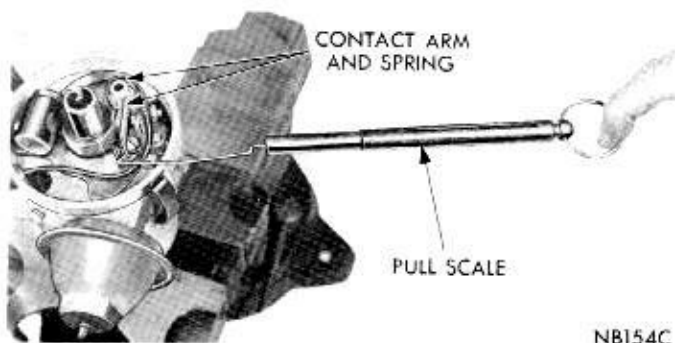

Fig. 12—Testing Contact Arm Spring Tension
(1) Hook a spring scale Tool MTU-36 on the breaker arm and pull in a straight line at a right angle to the contact surfaces (Fig. 12). Take a reading as the contacts start to separate under the slow and steady pull of the scale. Spring tension should be as shown in specifications. If the reading is outside these limits, loosen the screw which holds the end of the contact arm spring, and slide the end of the spring in or out, as necessary.
(2) Tighten the screw and measure the spring tension. **Just the right amount of contact spring tension is very important for effective ignition and efficient engine performance.** Spring tension that is too great, will cause excessive wear on the distributor cam and on the nylon block of the movable contact arm. Spring tension that is too weak, is unable to keep the contacts in contact with each other when they close. This is particularly true as engine speed is increased, causing high-speed misfiring.